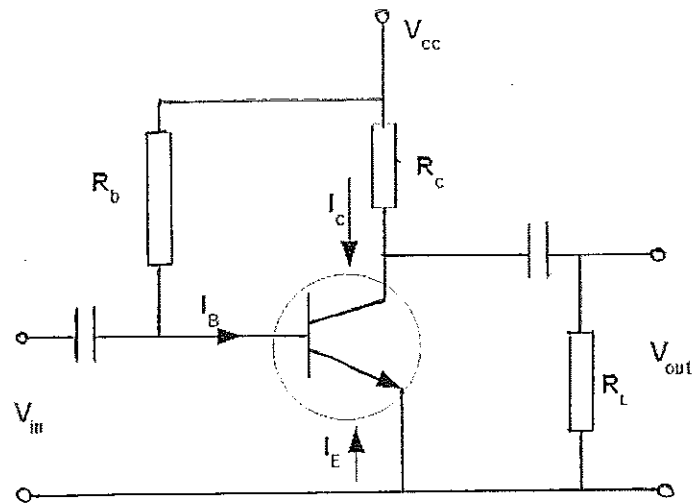

Figure 1
- c) In a network, eight (08) input bit streams need to be interfaced to a parallel printer buffer. At a given time, only one bit stream is interfaced to the buffer. Each input bit stream is given a token with decimal numbers 1 to 8 with decreasing priority in the increasing order of the token value. The token 1 has the highest priority while the token number 8 has the lowest priority. Draw the schematic of the digital circuit using 74LS148 a 8:3 priority encoder and 74HCT1284 printer buffer ICs. Data sheets are provided for 74LS148 and 74HCT1284 your reference. (10 marks)
- c) Derive an expression for stability,  $S = dI_c/dI_{co}$ ,  $I_c$  denotes the collector current and  $I_{co}$  denotes the reverse saturation current for the fixed bias circuit shown in Figure 1. (10 marks)